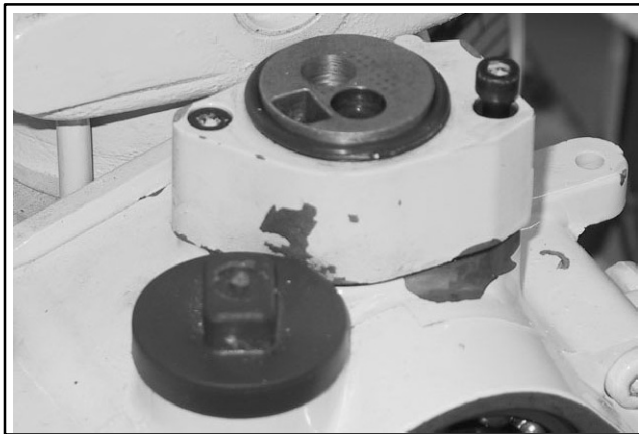

Figure 10-37 Gear Case
1. Release the two push rods by loosening the two hex cap screws and removing them from the upper surface of the gear case. See Figure 10-37